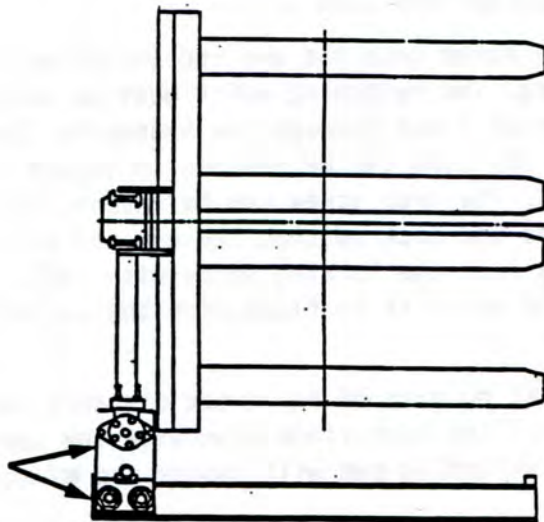

Figure 1
1. Travel the swing-push fork into the basic position, left, as shown in Figure 1 and swing the forks to the right.